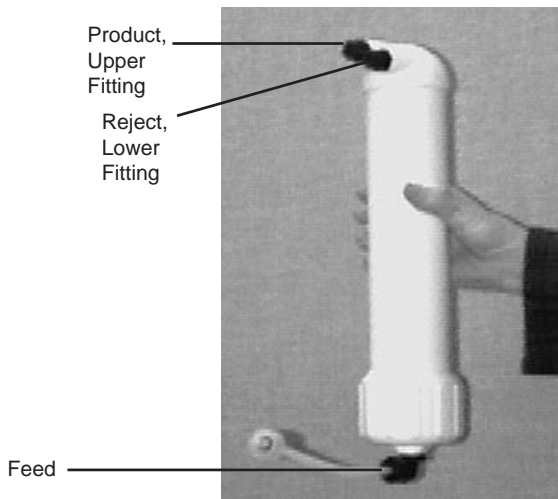

Figure 3 Ultrafilter Connections
3. Attach the small piece of tubing to the feed connection on the ultrafilter. The feed connection is the single connection on the bottom of the ultrafilter. (See Figure 3).